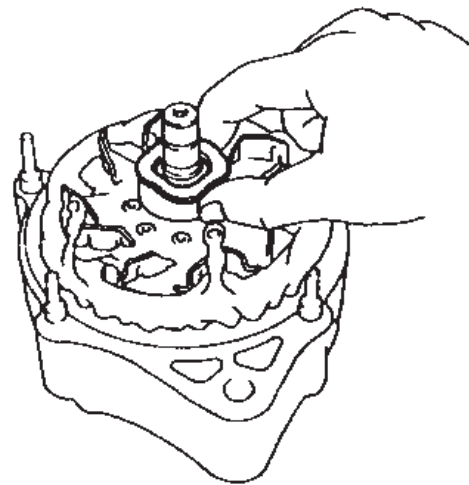

Figure 11-17
12. Remove the alternator washer (**Figure 11-17**).